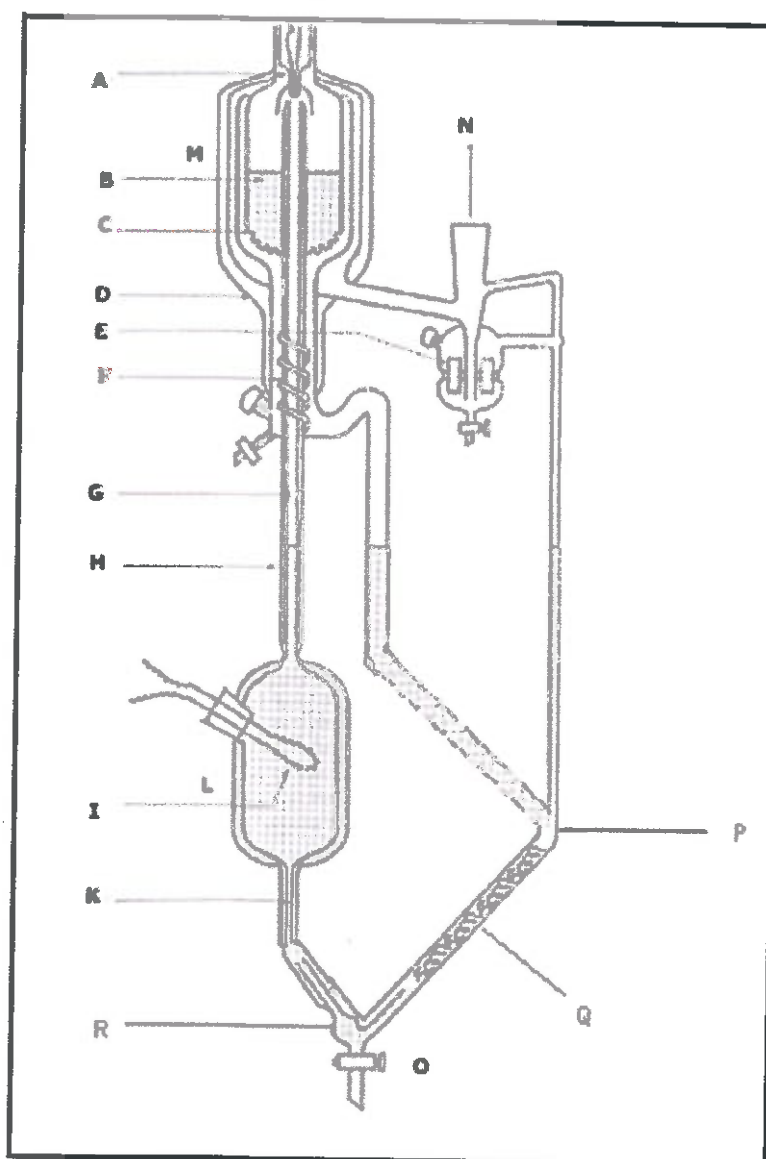

FIGURE 1.1 VLE Still of Ndlovu (2005)
1.1 Explain the differences in the still presented in Figure 1.1 to that used in your practical and elaborate on the reasons for the modifications.